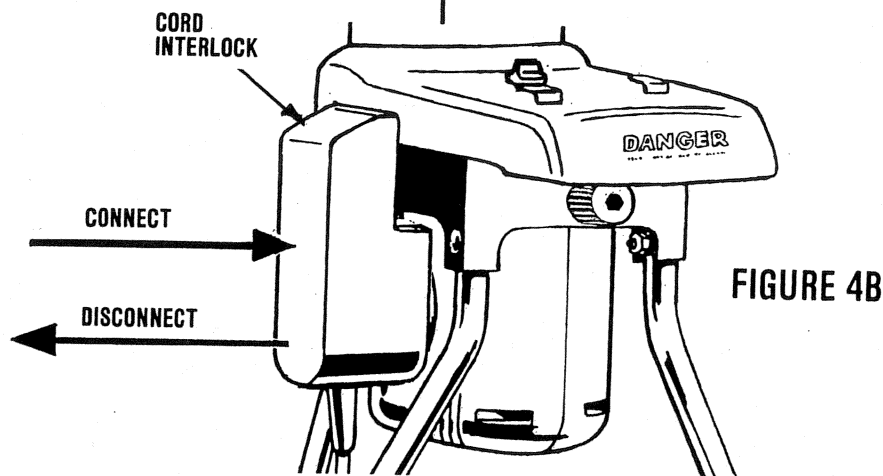

FIGURE 4B
4. The shredder comes equipped with a cord interlock, this must be firmly pressed into the motor housing inlet as shown in Figure 4B.